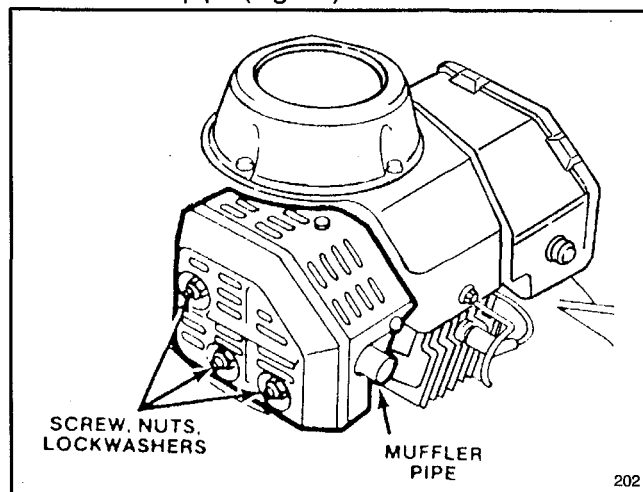

Figure 22
1. Use hard wood scraper and remove carbon from end of muffler pipe (Fig. 22).
2. Remove screw, two nuts, and lockwashers (Fig. 22). Slide muffler off mounting pins.
5. Reinstall muffler with screw, (2) nuts and lockwashers (Fig. 22). After cleaning exhaust port, make sure muffler gasket is still usable.